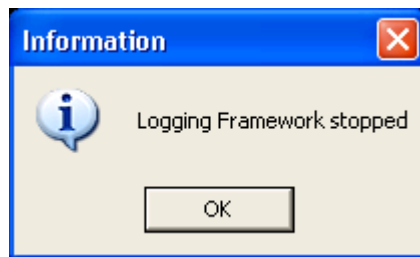

Figure 2-30: Logging Framework Information Window
- b. An *Information* window displays verifying that Logging Framework has been stopped, as shown in Figure 2-30.